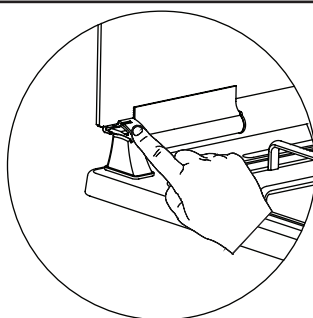

Figure 2
2. As shown in figure 2, the glass door can be closed by pressing the plastic clip with a finger.